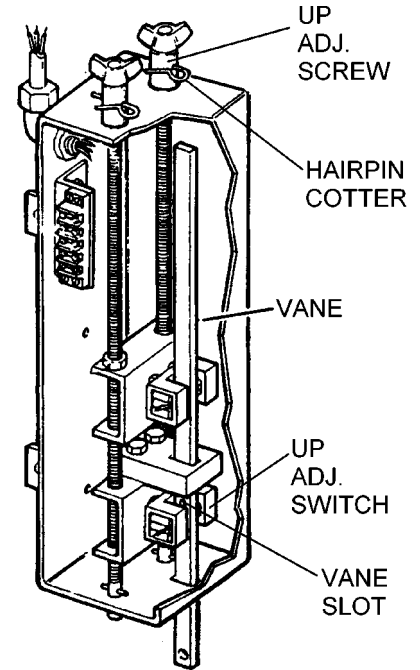

Figure 53A
3. Remove cover from Opto Box (See Figure 53A).